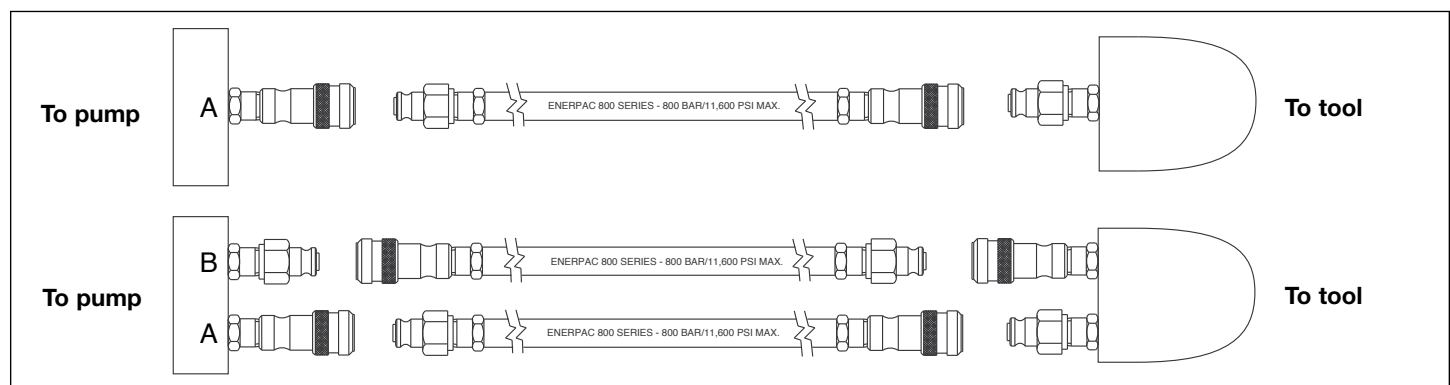

Figure 4 - Connections to Torque Wrench
2. Connect other end of hose to coupler on wrench as shown in Figure 4. Hand tighten coupler lock rings.
- Couple hoses to torque wrench as shown in Figure 4. Hand tighten coupler lock rings. When using the Enerpac pump and torque wrench combination, Series 800 hoses and couplers are designed so that the pump advance port can only be connected to the wrench advance port, and the pump retract port can only be connected to the wrench retract port.